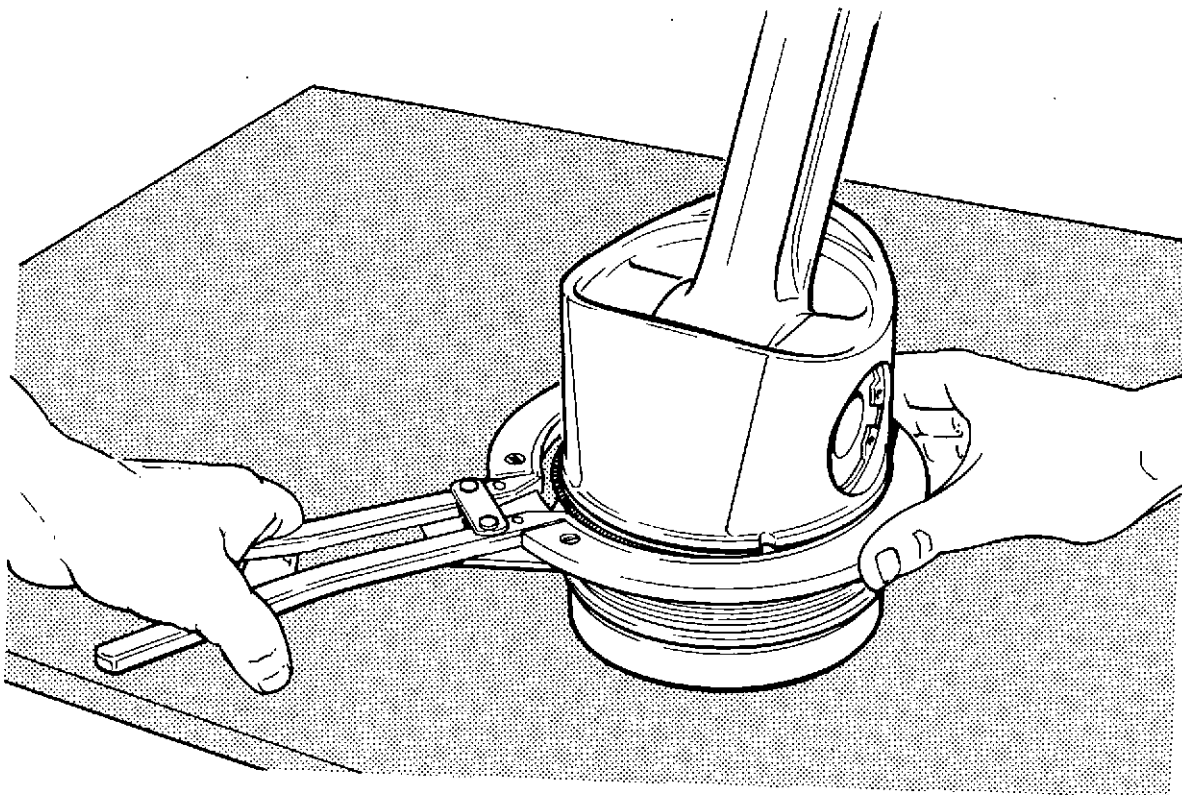

Fig. 3 Removing piston rings
- 12 Using the Piston Ring Pliers, GA 5039, with Locating Ring, GA 5107, carefully remove each ring (fig. 3) and lift out the backing spring from the oil control ring groove.